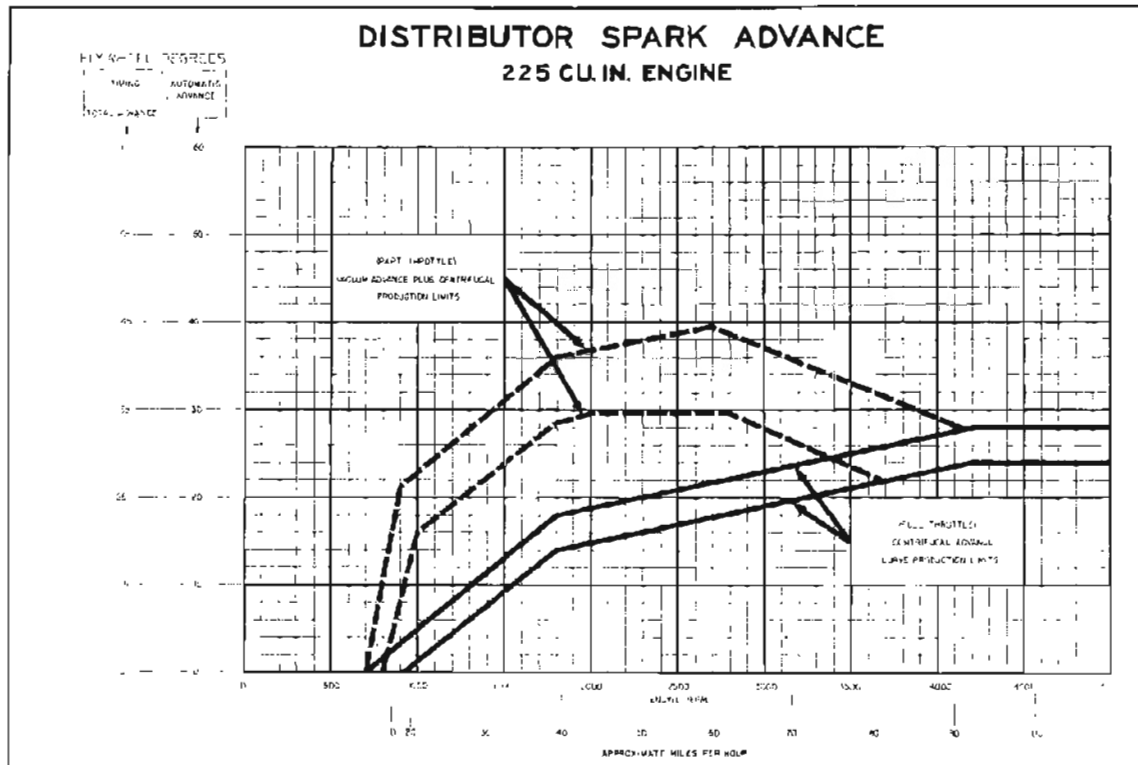

Figure 10-37—Distributor Spark Advance Chart—All V-6 Engines
(4) Ignition Distributor. The ignition distributor is of the external adjustment type. See Figure 10-37. It is driven clockwise directly from the camshaft through cast iron gears which are automatically lubricated by the engine oiling system. Contact point opening is adjusted through a window in the distributor cap while the engine is idling. Any accurate dwell meter may be used. See paragraph 10-34 for adjustment procedure.
When the vacuum at the opening is sufficient to act on the control diaphragm, it compresses the spring and rotates the breaker plate in a counterclockwise direction. This moves the contact points so that the distributor cam lobes open the points earlier in the compression stroke. The amount of throttle opening and the engine load determine the amount of intake manifold vacuum and thus the amount of spark advance obtained. The advance obtained by the vacuum control is added to the advance obtained by the centrifugal advance mechanism as shown in Figures 10-37 and 38.